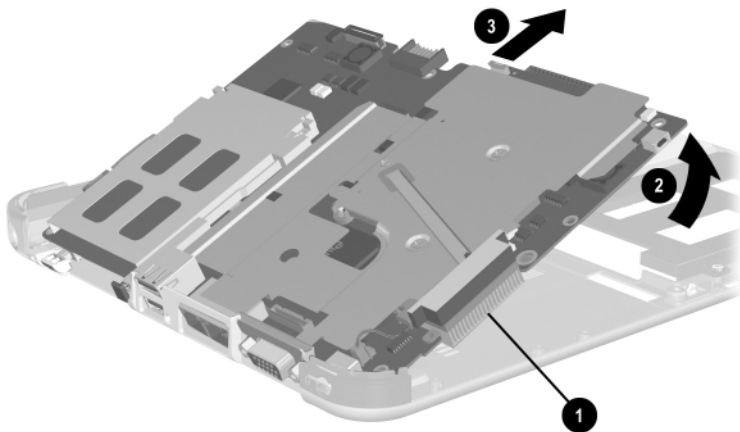

Figure 5-25. Removing the System Board
16. Use the heat sink grille ❶ to lift the right side of the system board ❷ until it rests at a 45-degree angle (Figure 5-25).
17. Slide the system board away from the base enclosure at an angle ❸ to remove it.